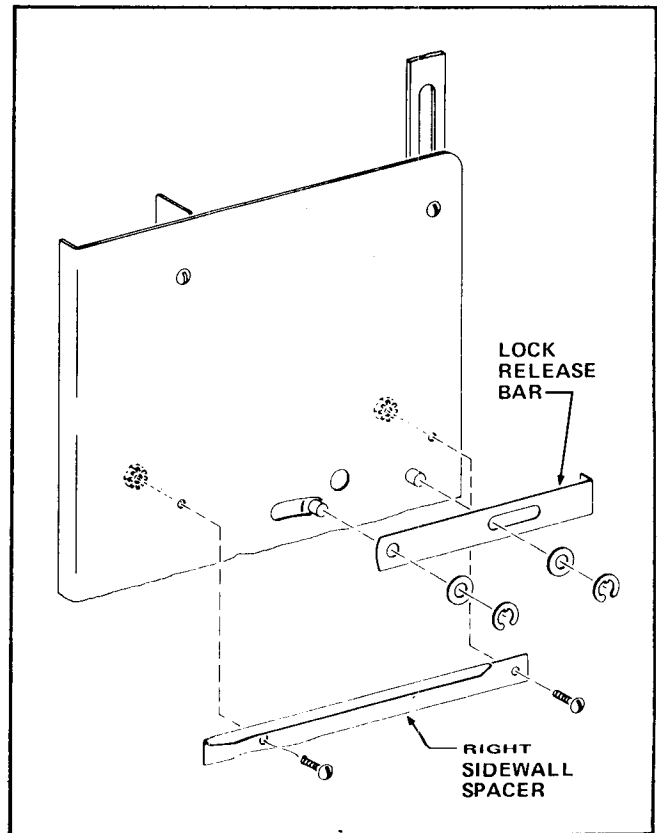

FIGURE 5-2
23. Remove two Retaining Rings, two Washers, and Lock Release Bar from the Right Sidewall. Retain the Lock Release Bar for use on the replacement Right Sidewall Final Assembly. See Figure 5-2.
24. Remove two No.8-32 Nuts with Lockwashers, two Spacer Rollers, two No.8-32 x 5/8 RHS Screws and the Right Sidewall Spacer from the Right Sidewall. Retain the Right Sidewall Spacer for use on the replacement Right Sidewall Final Assembly. See Figure 5-2.